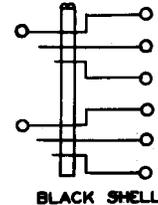

Fig. 2—211, 212, or 213 Plug
2.02 211, 212, and 213: The 211, 212, and 213 plugs are illustrated in Fig. 2.